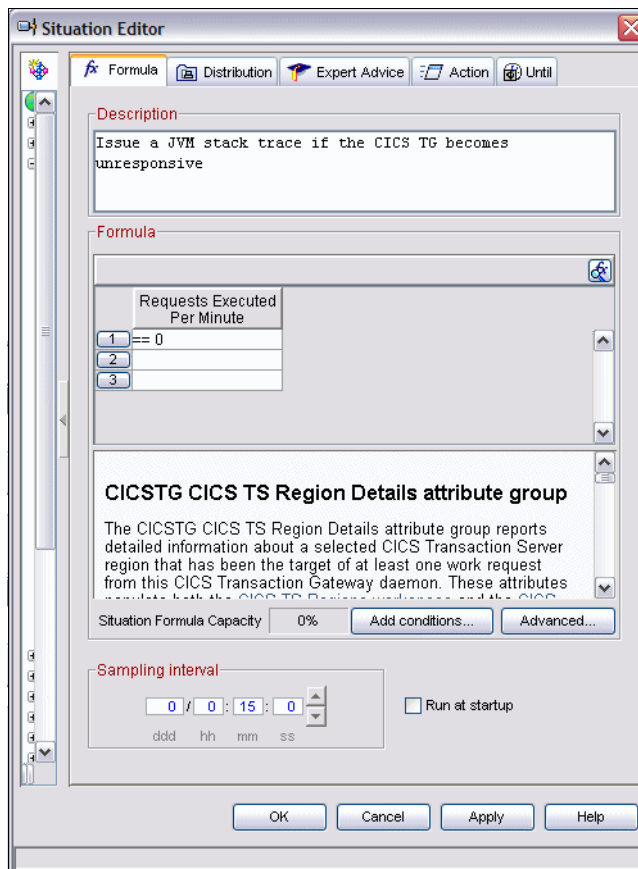

Figure 5-7 The situation editor formula tab
6. Click **OK**. In the formula tab of the Situation Editor, set the trigger condition to be requests per minute = 0. Leave the sampling interval as the default of 15 minutes (see Figure 5-7).